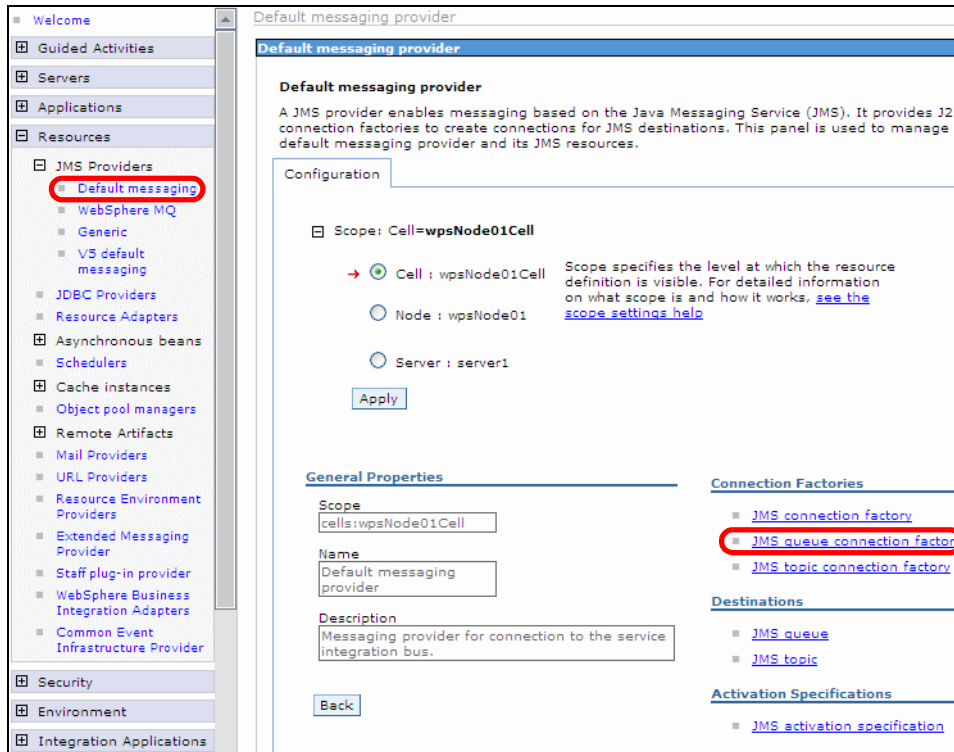

Figure 14-21 Configure JMS queue connection factory
- ▶ Select *JMS queue connection factory* (Figure 14-21).